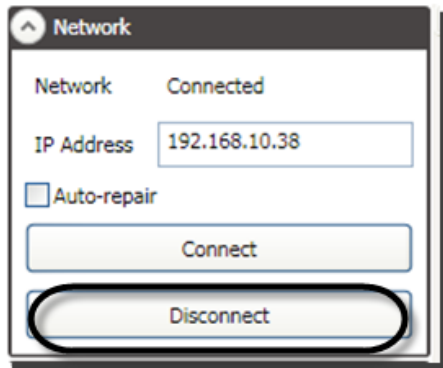

Figure 203
2. Press the **Disconnect** button in the **Network** section of the **Stagehand Motor** or **FX Editing Pane** (Figure 203).